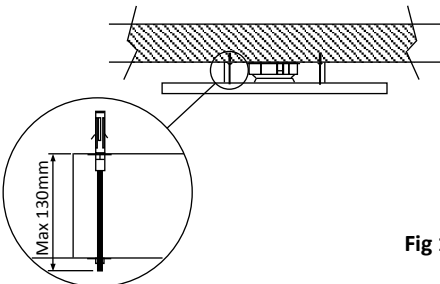

Fig 11
- Only tighten the bolts so the hood is fixed securely to the ceiling. If you tighten too much you will damage the frame (**Fig 11**).